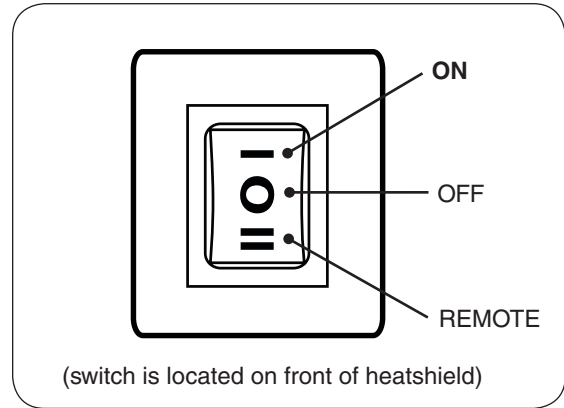

Fig. 14-1 Switch detail
1. Locate the 3-position switch found on the front of the heatshield (see Fig. 14-1). Press the switch up to the **ON** position.